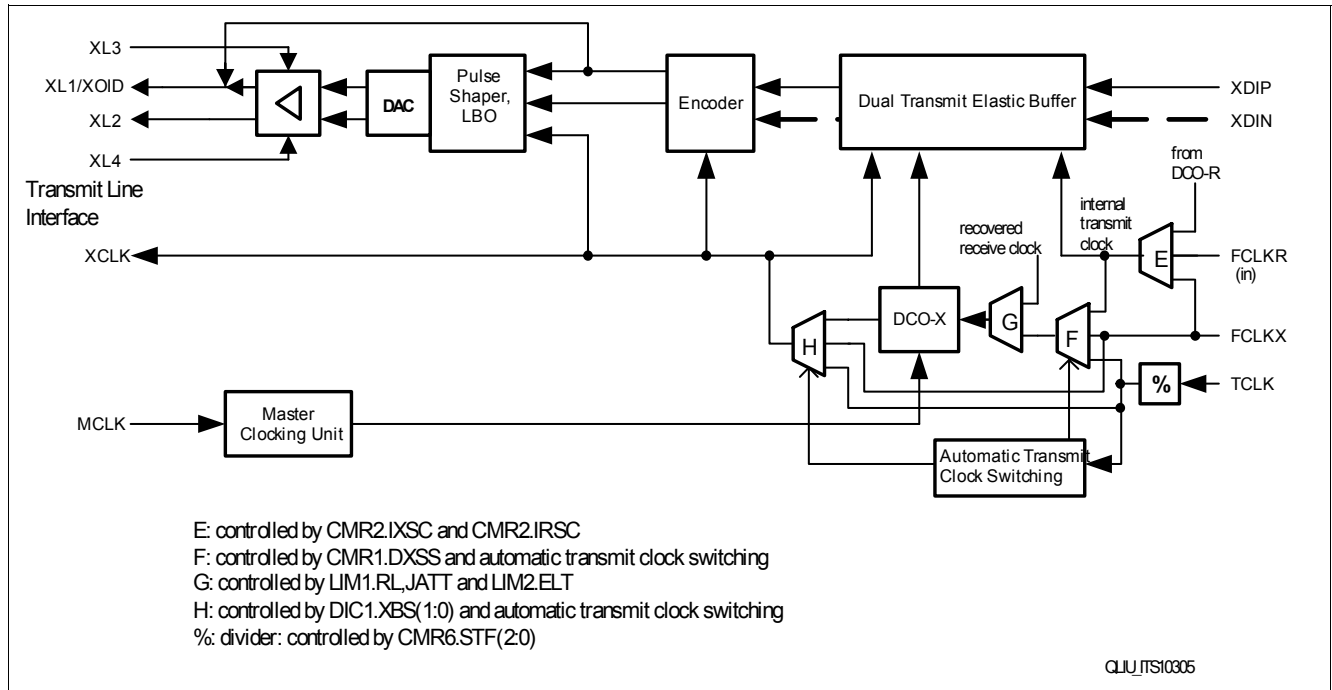
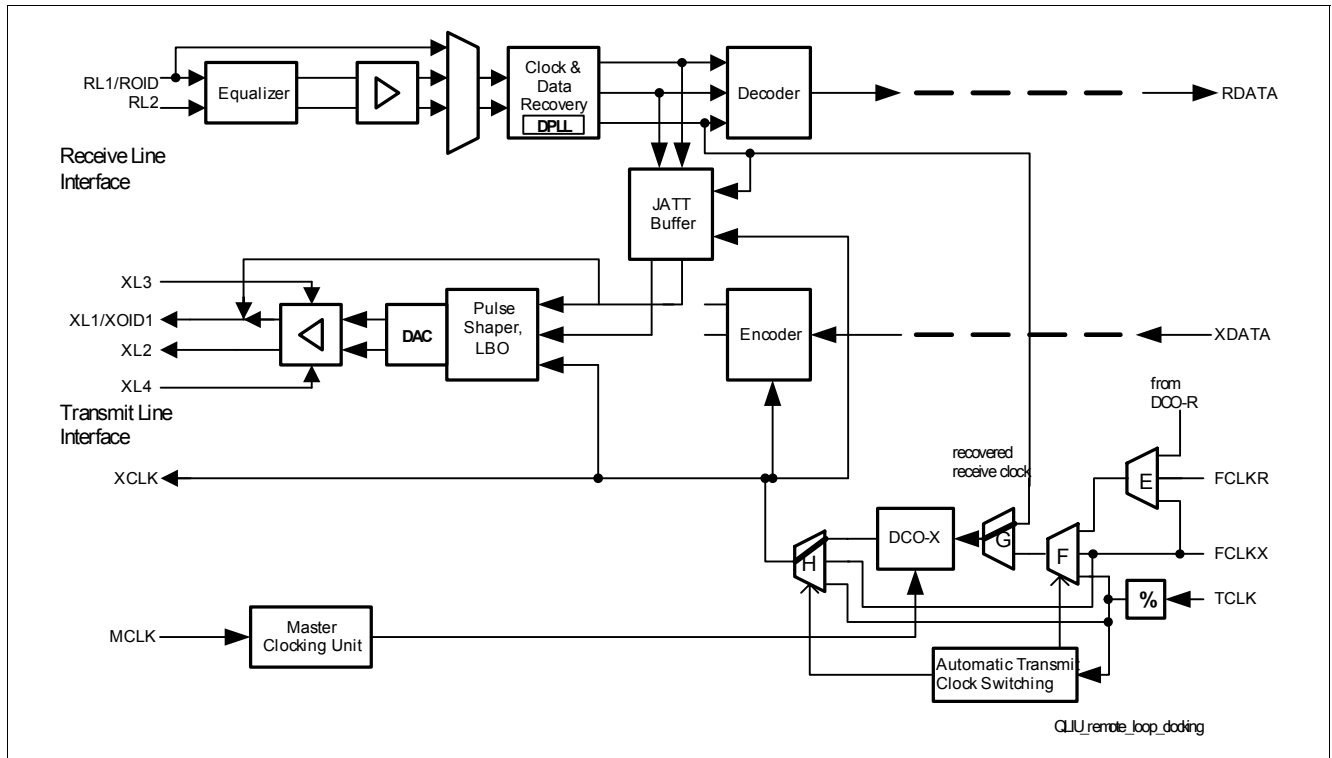

Figure 36 Transmit System of one Channel
Figure 38 Clocking and Data in Remote Loop Configuration
The transmit path of the QuadLIU™ is shown in Figure 36.
The transmit clock input TCLK (multi function port) of the QuadLIU™ can be configured for 1.544, 3.088, 6.176, 12.352 and 24.704 MHz input frequency in T1/J1 mode and 2.048, 4.096, 8.192, 16.384 and 32.768 MHz input frequency in E1 mode. Frequency selection is done by the register bits CMR6.STF(2:0) (CMR6). See divider “%” in Figure 36.
- If the TCLK input is used directly as source for the transmit clock XCLK, the output of the DCO-X is not used. The DCO-X reference clock is FCLKX. If loss of TCLK is detected, the transmit clock XCLK will be switched automatically (if CMR6.ATCS = '1') to the DCO-X output which is synchronous to FCLKX (see multiplexer “H” in Figure 36). If XCLK was switched to the DCO-X output and TCLK becomes active, switching of XCLK (back)
- If the transmit clock XCLK is sourced by the DCO-X output and the DCO-X reference clock is TCLK, the DCO-X reference will be switched automatically (if CMR6.ATCS = '1') to FCLKX (see multiplexer "F" in Figure 36) after a loss of TCLK was detected. If the DCO-X reference was switched to FCLKX and TCLK becomes active, switching of the reference (back) to TCLK is automatically performed if CMR6.ATCS = '1'. All switchings of the reference between TCLK and FCLKX are shown in the interrupt status bit ISR7.XCLKSS1 which is masked by IMR7.XCLKSS1. For these kinds of automatically switching, the transmit clock XCLK fulfills the jitter-, wander- and frequency deviation- requirements as specified for E1/T1 after the clock source of the DCO-X was changed. If CMR6.ATCS is cleared, TCLK is used (again) as reference for the DCO-X, independent if TCLK is lost or not. The interrupt status bit ISR7.XCLKSS1 will be set also.
The transmit jitter attenuator is based on the so called DCO-X (digital clock oscillator, transmit) in the transmit path. Jitter attenuation of the transmit data is done in the transmit elastic buffer, see Figure 36. The DCO-X circuitry generates a "jitter-free" transmit clock and meets the E1 requirements of ITU-T I.431, G. 736 to 739, G.823 and ETSI TBR12/13 and the T1 requirements of AT&T PUB 62411, PUB 43802, TR-TSY 009, TR-TSY 253, TR-TSY 499 and ITU-T I.431, G.703 and G. 824. The DCO-X circuitry works internally with the same high frequency clock as the DCO-R. It synchronizes either to the working clock of the transmit system interface (internal transmit clock) or the clock provided on multi function pin TCLK or the receive clock RCLK (remote loop/loop-timed). The DCO-X attenuates the incoming jitter starting at its corner frequency with 20 dB per decade fall-off. With the jitter attenuated clock, which is directly depending on the phase difference of the incoming clock and the jitter attenuated clock, data is read from the transmit elastic buffer (512/386 bit) or from the JATT buffer (512/386 bit, remote loop), see Figure 38. Wander with a jitter frequency below the corner frequency is passed transparently.
The jitter attenuated clock is output on pin XCLK if the transmit jitter attenuator is enabled, see multiplexer "H" in Figure 36.
The transmit jitter attenuator can be disabled. In that case data is read from the transmit elastic buffer with the clock sourced on pin TCLK, see multiplexer "H" in Figure 36. Synchronization between FCLKX and TCLK has to be done externally.
In the loop-timed clock configuration (LIM2.ELT) the DCO-X circuitry generates a transmit clock which is frequency synchronized on RCLK, see Figure 38 and multiplexers "G" and "F" in Figure 36. In this configuration the transmit elastic buffer has to be enabled.
The received single rail bit stream from pin XD1 or dual rail bit stream from the pins XDIP and XDIN are optionally stored in the transmit elastic buffer, see Figure 36. The transmit elastic buffer is organized as the receive elastic buffer. The functions are also equal to the receive side. Programming of the dual transmit buffer size is done by DIC1.XBS(1:0) in the same way as programming of the dual receive buffer size by DIC1.RBS(1:0), see Table 26:
Writing of received data from XDIP/XDIN is controlled by the internal transmit clock. Selection of FCLKX or FCLKR is possible, see multiplexer “E” in Figure 36. (If the DCO-R output is selected, the DCO_R output is also output at FCLKR.)